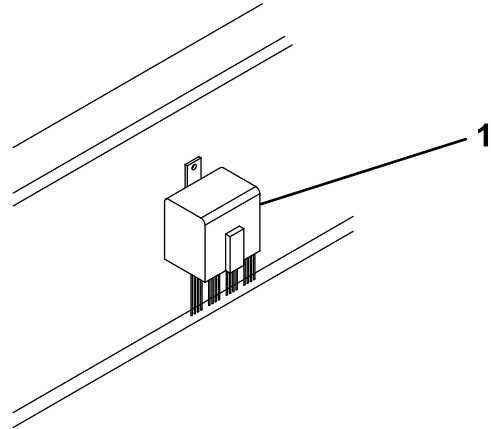

Figure 21
29. Mount the relay pack to the inside of the engine compartment using a sheet-metal screw (Figure 21).